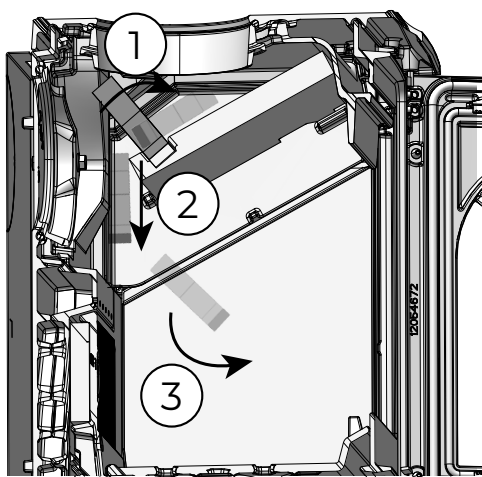

Fig. 7.4
2	Tilt the upper baffle (A) forwards and slide it out at the rear (Fig. 7.4)